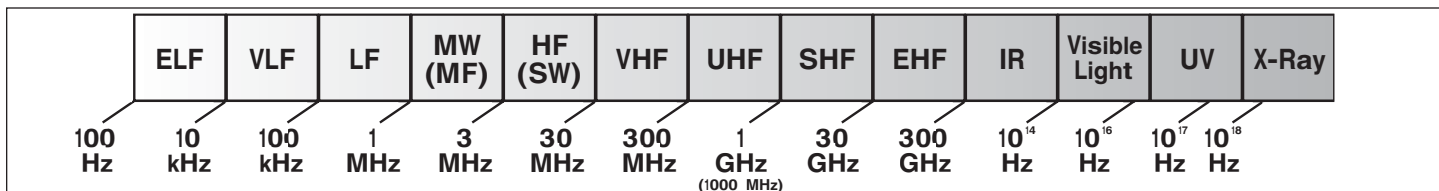

Figure 1: The Electromagnetic Spectrum
Radio Frequency (RF) does not refer just to radio broadcasting but rather encompasses all of the electromagnetic spectrum. RF energy is classified according to frequency. The range of frequencies is called the *Radio Spectrum*. While there is no precise beginning or end to frequencies making up the RF spectrum, Figure 1 shows the generally accepted ranges and class designations.